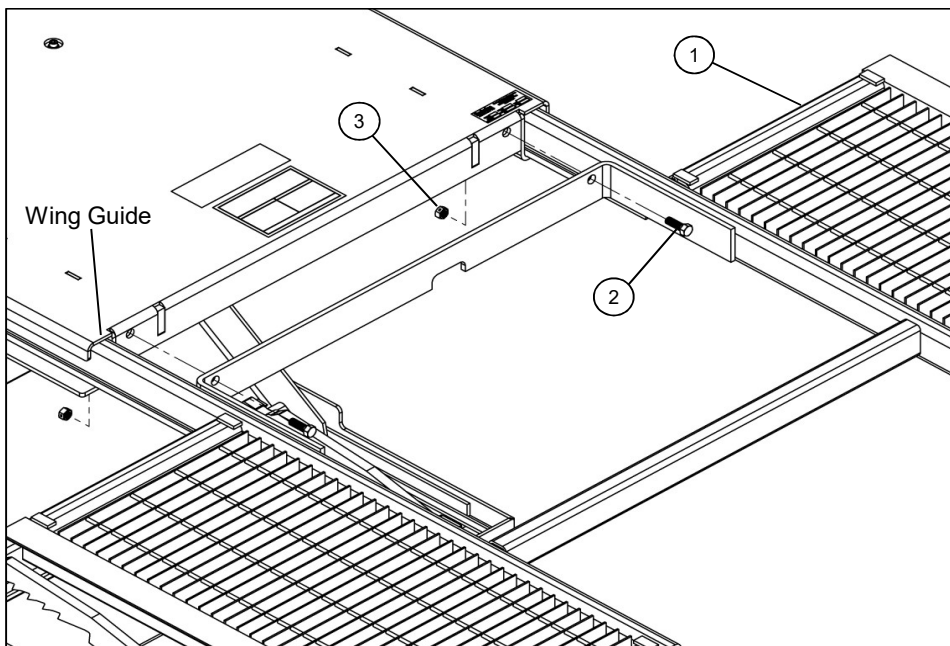

fig.3
Obtain wing assemblies and hardware: (see fig.3).
Slide the wing assembly (10527) into the wing guides on the top pan of the lift (see fig.3).
Secure the wing assembly to the lift using (2) 1/2-13 x 1-12" hex bolts (83J) and (2) 1/2-13 lock nuts (84J) (see fig.3).